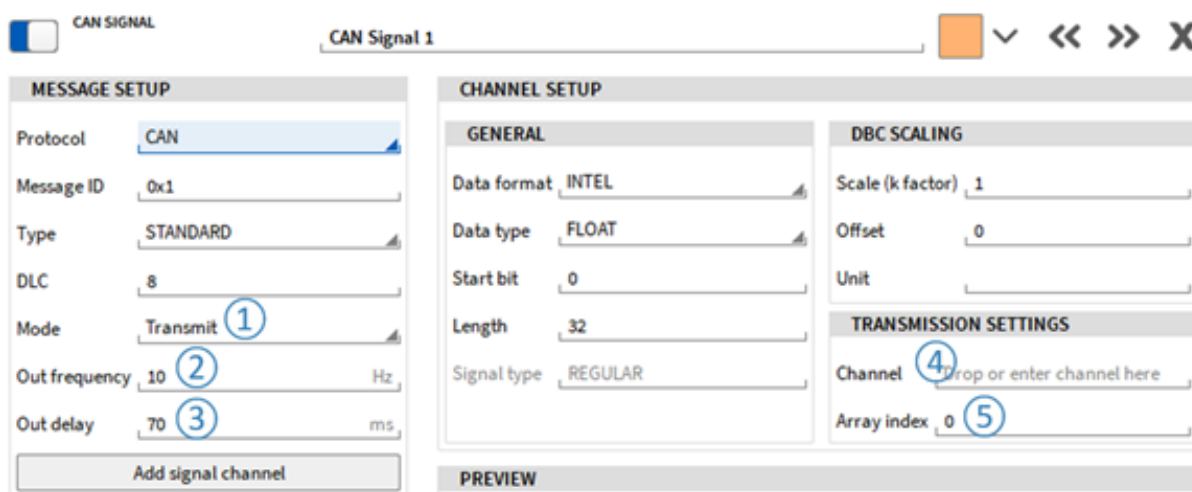
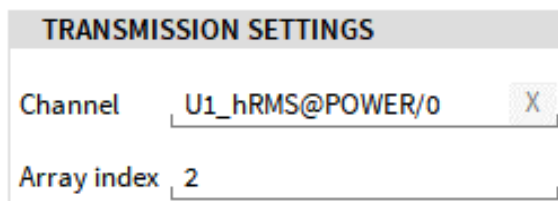

Fig. 7.198: CAN output settings
Fig. 7.199: Outputting arrays elements over CAN
It is possible to transmit OXYGEN channels cyclically over the CAN bus. This functionality is supported by all CAN ports available on the different TRION boards and also by the Vector VN series CAN ports. For transmitting CAN data, it is either possible to load a dedicated dbc file or to define the CAN messages and signals individually by using the CAN editor. To transmit OXYGEN data over CAN, the CAN message Mode must be set to Transmit (see ① in Fig. 7.198) for that.
The output rate can be defined from 0.1 ... 100 Hz (see ② in Fig. 7.198) individually for each message. The output delay can be set from 1 ... 500 ms (see ③ in Fig. 7.198). One dedicated OXYGEN scalar time domain channel (i.e. Analog or Digital input, power value such as Active power or another CAN channel) can be assigned to one CAN signal by dropping the channel or typing its name into the Channel section of Transmission settings (see ④ in Fig. 7.198).
It is also possible to output dedicated elements of an array channels (such as harmonics from a power group) over CAN. To do so drop the array channel in to the Channel section (see ④ in Fig. 7.198) of the Transmission Settings and enter the index of the array elements that shall be output in Array index (see ⑤ in Fig. 7.198). As an example: If the second harmonics of a voltage channel shall be output over CAN, type in the harmonics channel name in the Channel section, i.e. `U1_hRMS@POWER/0` and enter the index 1 in the Array index section (see Fig. 7.199).
To tune the responsiveness and the signal quality of the transmitted data, we introduced the Out delay (see ③ in Fig. 7.198). This is the time, which the data is delayed before sent. The following graphs show the difference between two individual settings: